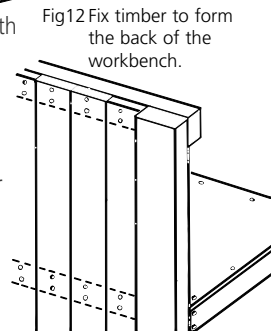

Fig12 Fix timber to form the back of the workbench.
- Mark out and cut thirteen 1800mm pieces of 140x20mm treated pine for the back and screw fix to the base frame, shelf frame and top member to form the back of the workbench (see fig 12).